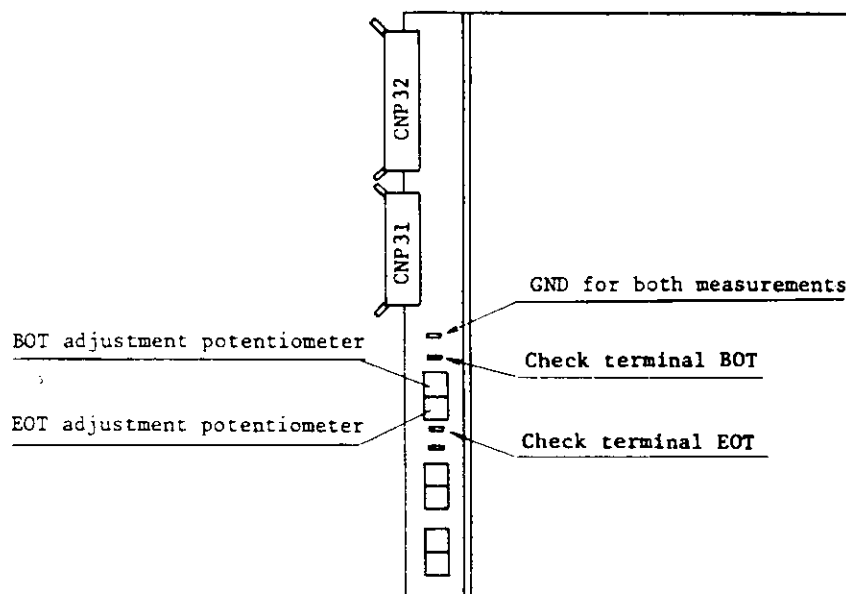

Figure K.26 MTU PCA 1A04
- (2) Before loading tape, check the voltage levels at terminals BOT/GND and EOT/GND (see Figure K.26) with a digital voltmeter.